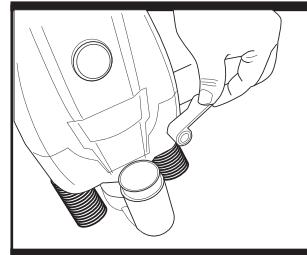
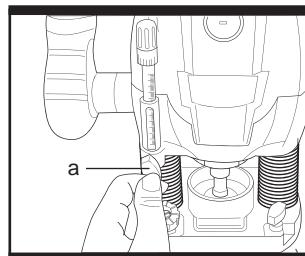

Fig. 5
Fig. 6
4. ADJUSTING DEPTH OF CUT (Fig. 5 & Fig. 6)